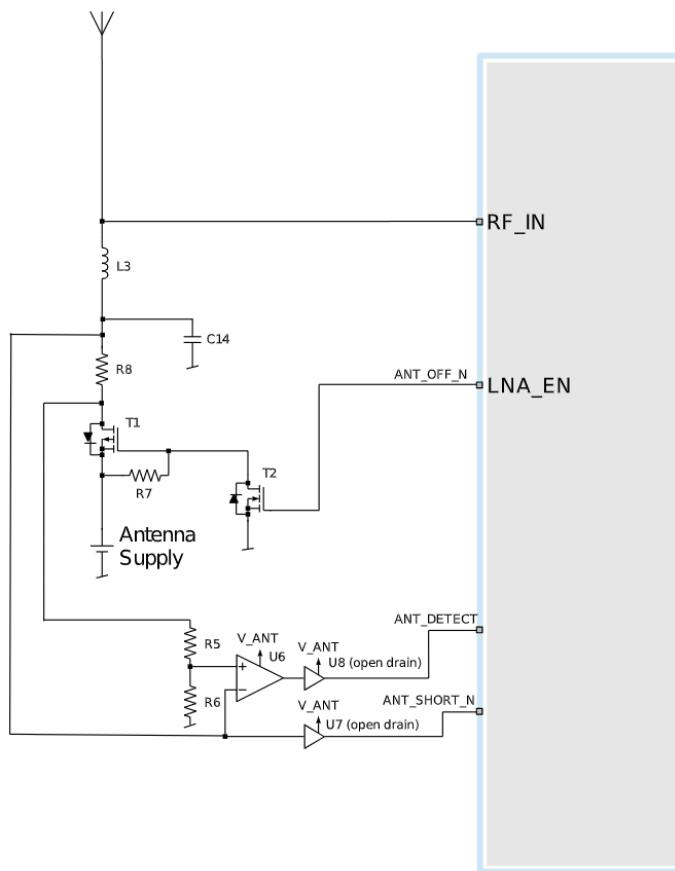

Figure 10: MAX-M10M three-pin antenna supervisor
Figure 10 presents the required three-pin antenna supervisor circuit and subsequent sections describe how to enable and monitor each feature.
Table 16 presents a list of the external components required for implementing the three-pin antenna supervisor design in Figure 10. Refer to External components for the recommended parts and specification.
- The open drain buffers shown in Figure 10 are not needed if V_ANT is the same voltage level as V_IO.